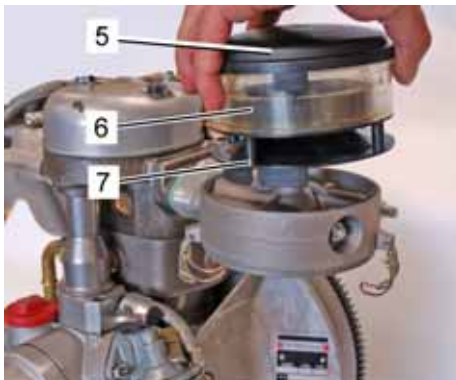

Fig. 77
6. Thoroughly clean intake area (Fig. 78/8), air filter cover (Fig. 77/5) and air filter pot (Fig. 77/6) as well as centring ring (Fig. 77/7).